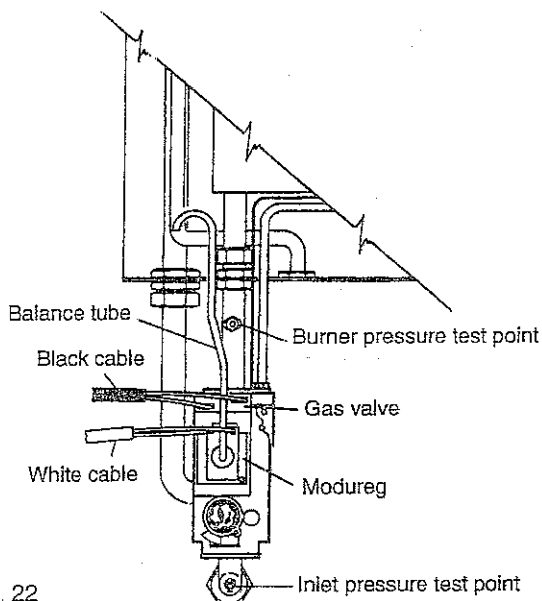

Fig. 22
- Loosen the screw in the burner pressure test point (fig. 22) and attach a gauge.
- e. Disconnect one of the wires from the «Modureg» (fig. 22), this will reduce the burner to minimum which should read 2.5 mbar \pm 0.5 mbar. If the burner pressure is not as stated check the inlet working pressure (fig. 22) which should be minimum 20 mbar. If that is correct, consult Ferroli. No attempt should be made to alter D.H.W. burner pressure.